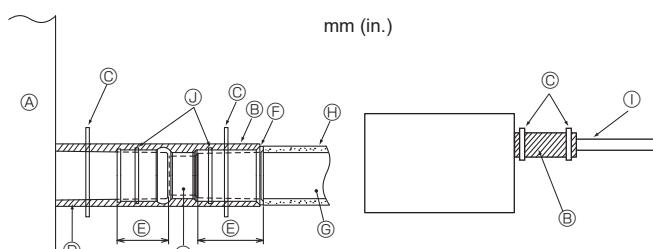

Fig. 4-3
- ⑯ Up to 50 cm (19-11/16 in.)
1. Connect the drain socket (supplied with the unit) to the drain port. (Fig. 4-3)
[Fig. 4-3]